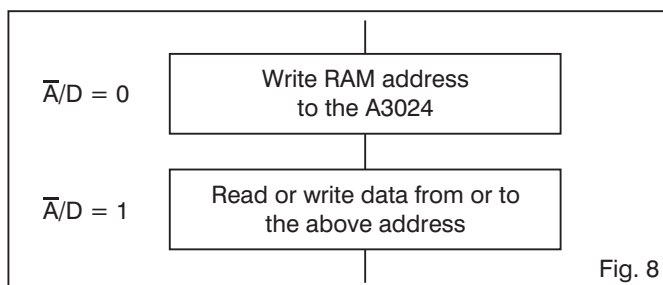

Fig. 8
Data transfer is in 8 bit parallel form. All time data is in packed BCD format with tens data on lines AD 7 - 4 and units on lines AD 3 - 0. To access information within the RAM (see Fig. 7) first write the RAM address, then read or write from or to this location. Fig 8 shows the two steps needed.
The communication sequence shown in Fig. 8 is re-entrant. When the address is written to the A3024 (ie. first step of the communication sequence) it is stored in an internal address latch. Software can read the internal address latch at any time by holding the  $\overline{A/D}$  line low during a read from the A3024. So, for example, an interrupt routine can read the address latch and push it onto a stack, popping it when finished to restore the A3024.
**Note :** Commands are only valid as commands when the  $\bar{A}/D$  line is low. Writing F2 hex with the  $\bar{A}/D$  line high, as in the last box of Fig. 8, serves only to activate the A3024 write pin which determines the direction of transfer.